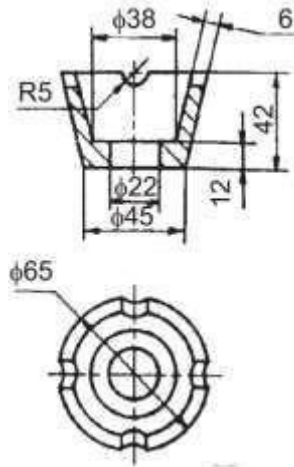

Fig. 5
3. Suggest a suitable machining sequence for the Screw Jack Cup as shown in Fig.5 and redraw the component incorporating step by step features to facilitate manufacture.